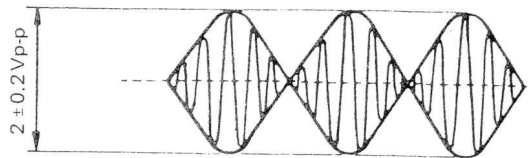

Fig. 4-3. Waveform after adjustment of the DC balance
- (2) Adjust the volume (G1) to make the amplitude $2V \pm 0.2V_{p-p}$ as shown in Fig. 4-3.